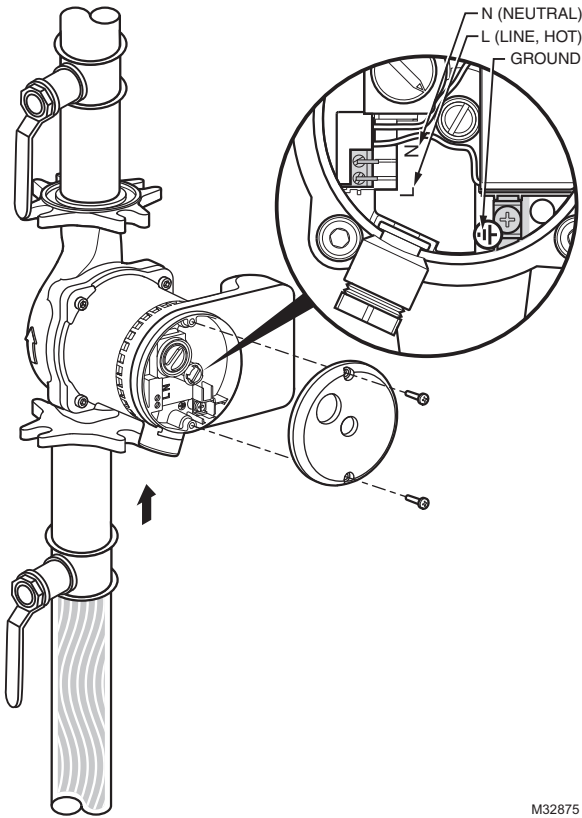

Fig. 8. Circulator pump wiring.
- Connect the ground wire to the ground screw inside the box. (See Fig. 8).